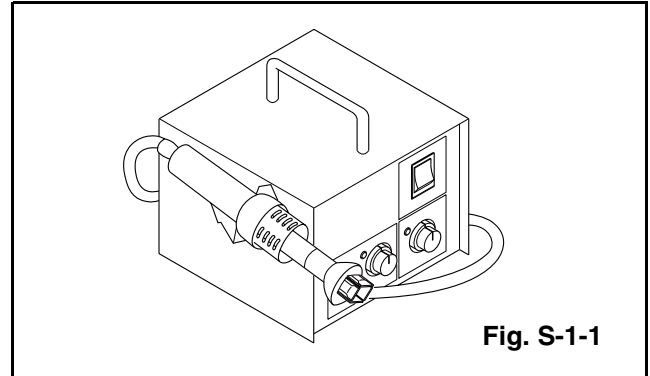

Fig. S-1-1
- Prepare the hot-air flat pack-IC desoldering machine, then apply hot air to the Flat Pack-IC (about 5 to 6 seconds). (Fig. S-1-1)